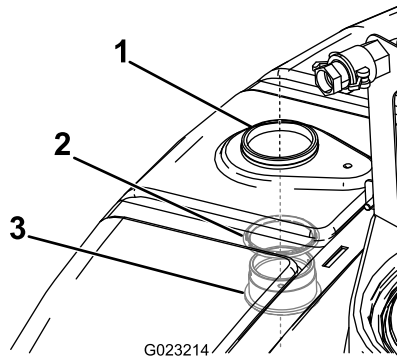

Figure 16
1. Install the bulkhead fitting and the seal through the hole that you created in Drilling the Tank (page 9), from inside the tank (Figure 16).
2. Secure the bulkhead to the tank with the locking ring (Figure 16).